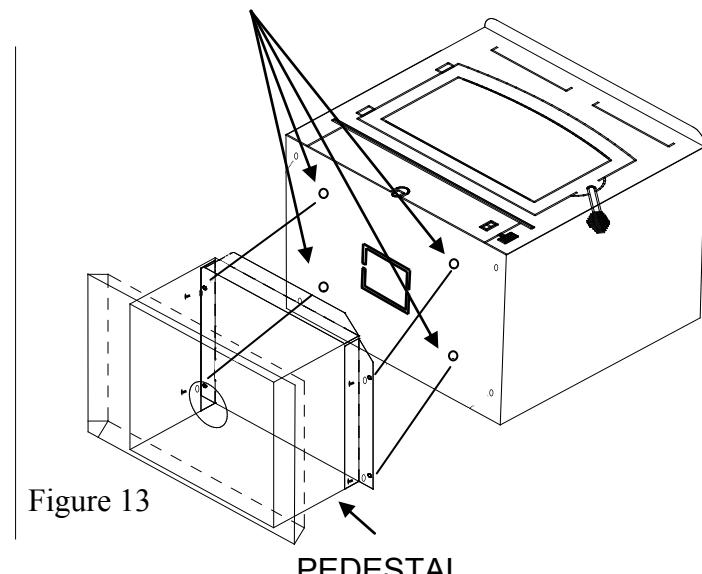

Figure 13
6. **(Pedestal Kit):** If pedestal kit is being used and out side air is required for residential free standing installation (see page 25 Out Side Air Installation). Open freestanding kit and obtain stand. Place stand against bottom of heater (angle side to heater). Center stand front to back and also center stand left and right. Mark screw locations on bottom of stove through outer holes of stand mounting angles. Set stand aside and drill four  $7/32"$  holes in heater bottom. Then mount stand to bottom of heater with screws provided. (See Figure 13).
7. Obtain four (4)  $3/16"$  self-tapping screws and secure stand to heater.